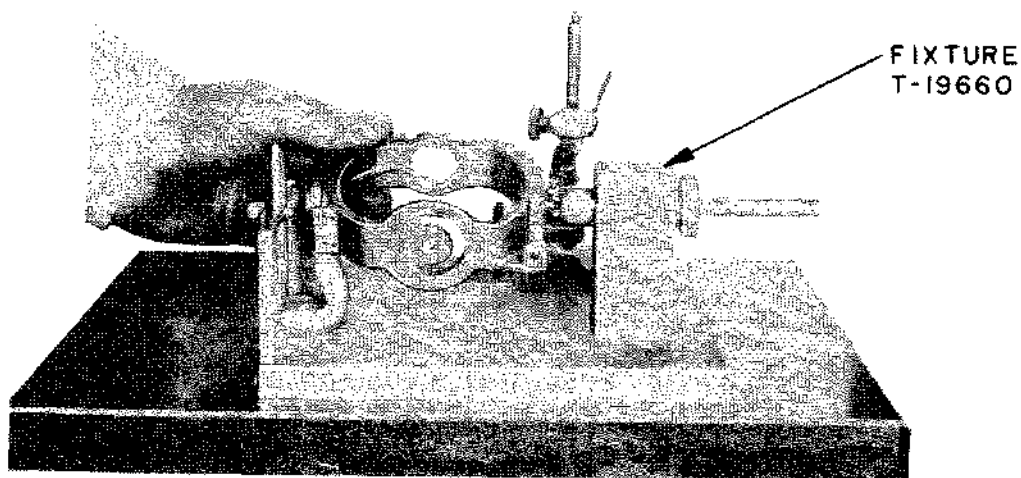

FIGURE 24 CHECKING THE CONCENTRICITY OF THE AIR PIVOT IN THE GIMBAL RING TOLERANCE, .0005 INCH.
1. Place female plug, T-20787, in bearing recess in gimbal ring, place gimbal ring in fixture, T-19660, and screw in adjusting screw until gimbal ring is free to turn without end play, and without binding. Indicate large diameter of pivot, turning the gimbal ring in the fixture. The indicator should not show a greater variation than .001" all around. Turn gimbal ring 45 degrees on each side of the horizontal (its operating position) and indicate as before. The tolerance in this case must be within .0005". (See Fig. 24.)